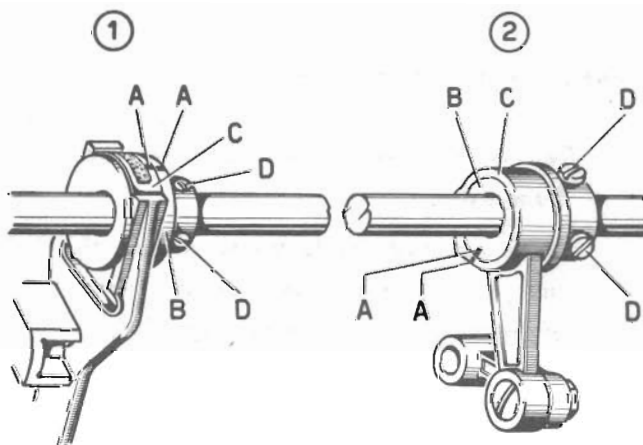

Fig. 7
- check that the lines **AA** (Fig.7) marked in red on the eccentrics **B** and their strips **C** coincide both in the eccentric controlling group of the feeding **1** and in the lifting mechanism **2** (located under the base of the sewing machine). Should one or both eccentrics be incorrectly timed, proceed as follows:
- without moving the sewing machine and with the needle bar in its lowest position, loosen the fastening set-screws and screws **DD** of the eccentrics that are not properly adjusted (Fig.7). Rotate the eccentric on the shaft until the two control lines **AA** coincide. Finally, tighten the set-screws firmly, making sure that the needle bar is always in its lowest position.